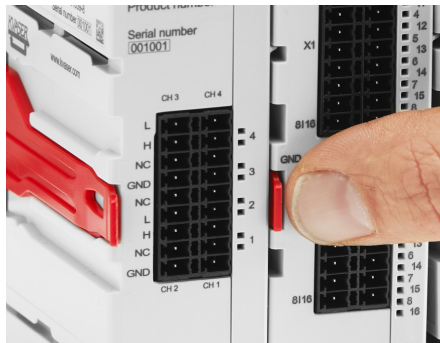

Figure 6: Press the top of mounting clip before removing a module from the DIN Rail.
1. Press the top of the mounting clip to the left, see Figure 6.